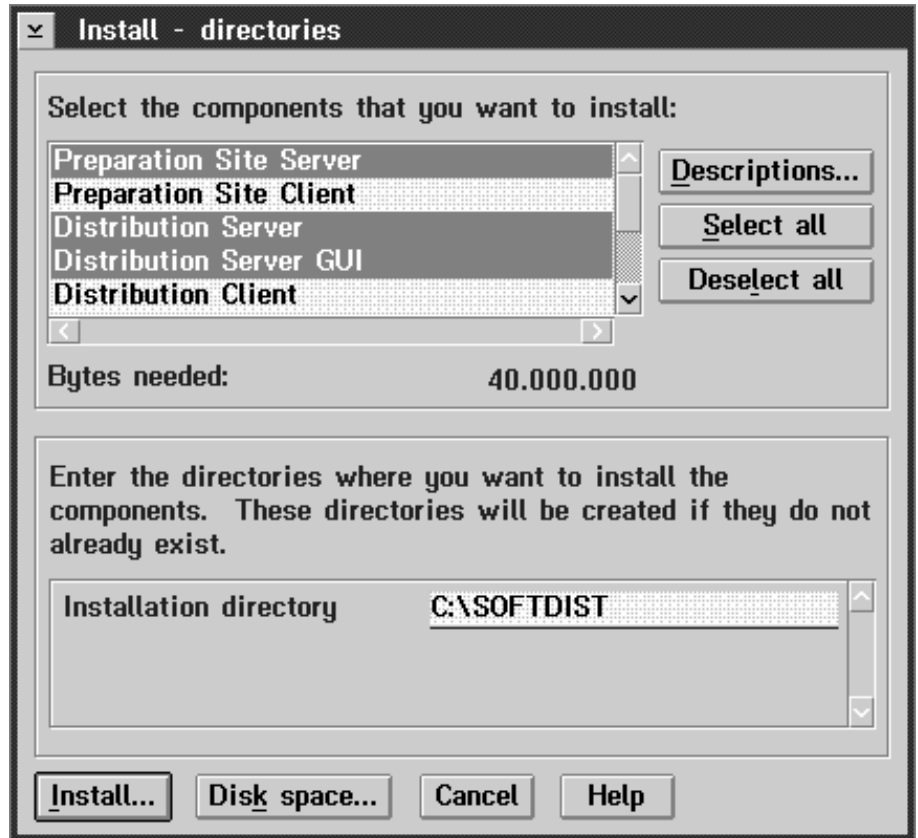

Figure 10. TME 10 Software Distribution install - directories window
- 4 In the Install - directories window, shown in Figure 10 on page 55, select the components to install and the installation directory. This window includes the default for the TME 10 Software Distribution installation directory, SOFTDIST.